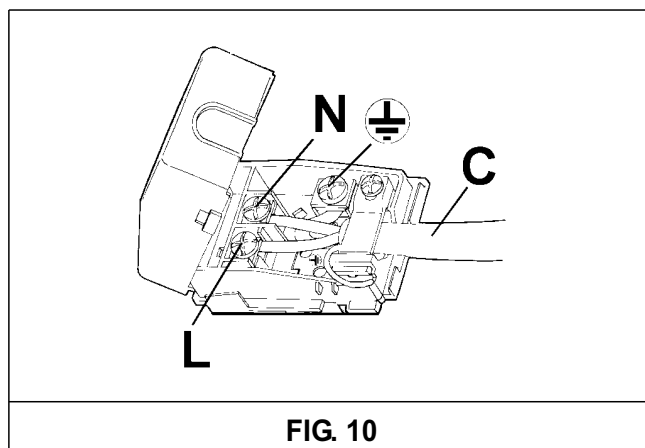

FIG. 10
- Connect the wires in compliance with the diagram in fig. 10, ensuring that the following are observed: